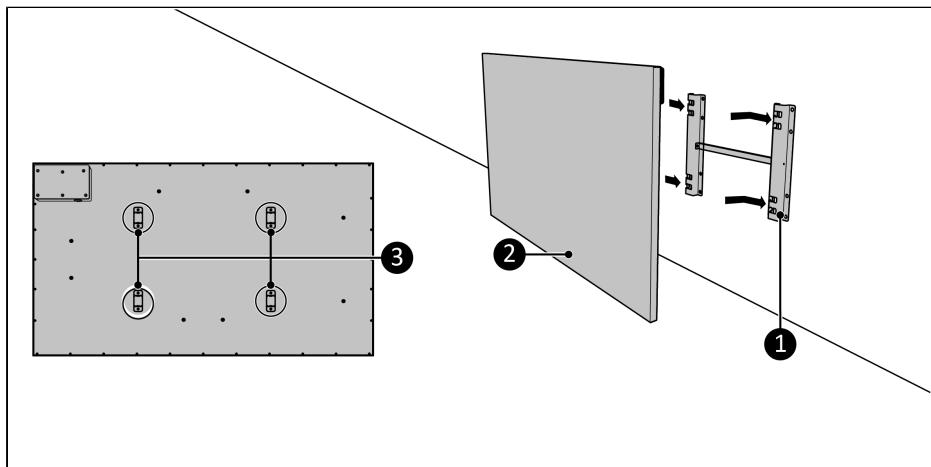

Figure 36.
5. Place the device brackets (Figure 36, pos. 3) over the wall bracket (Figure 36, pos. 1).
6. Slide the device (Figure 36, pos. 2) into the openings of the wall bracket (Figure 36, pos. 1).